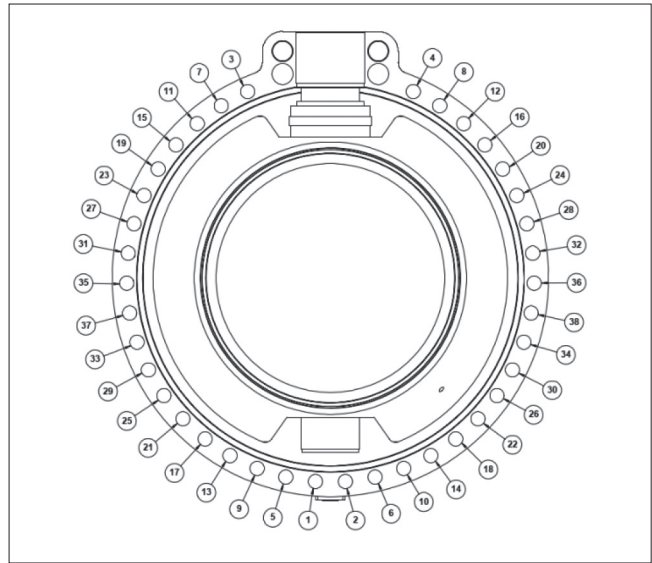

Fig. 10 Tightening the body joint bolts
- Place the male body half (2) onto the female body half (1) with the stem bore and body stud holes aligned.
- Push the bonnet (3) onto the stem (3) and hand tighten the bonnet nuts (17) on the bonnet studs (13).
- Tighten the flange nuts (16) as indicated in Figure 10. Start from opposite the stem and first tighten the nuts to torques that are 1/3 of the values in Table 1. Then tighten them to 2/3 of the values in Table 1. Then tighten to their final torques in the same sequence.
- After tightening the flange nuts (16), loosen the bonnet nuts (17) and remove the bonnet (8).